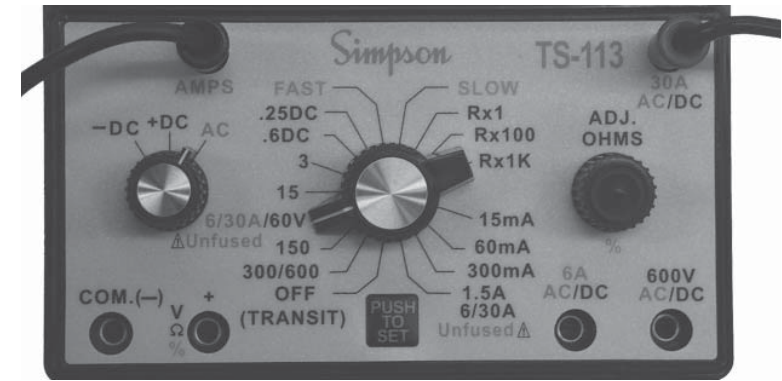

Figure 4. Measuring AC Current
- Connect black lead to the "COM" jack and the red lead to the "+" (Ω V %) jack. See Figures 4 & 5.
- Set range switch to the orange colored "6/30A /60V" as shown in Fig. 4.
- Connect black marked lead into "AMPS" jack, and the red marked lead into "6A" or "30A" jack as shown in Fig. 4. (When in doubt, first select the "30A" jack.)